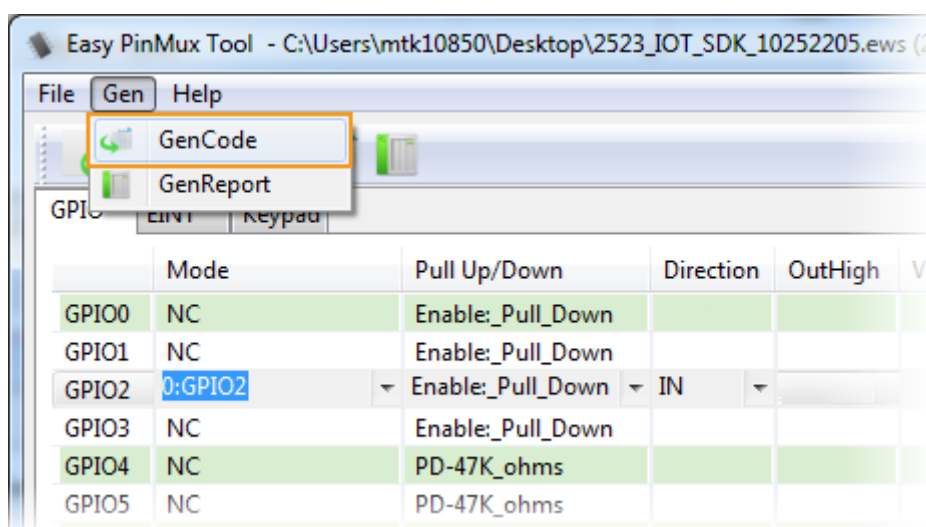

Figure 5. Generate code for the current configuration
- 1) Go to the **Gen** menu and click **GenCode** to generate the source code for the driver. All generated files are saved in \output\7933(768x) folder. The header files (.h files) are saved in the sub-directory inc, while the source files (.c files) are saved in the sub-directory src. Once the source code is generated successfully, a popup message will prompt the file path, as shown in Figure 5.